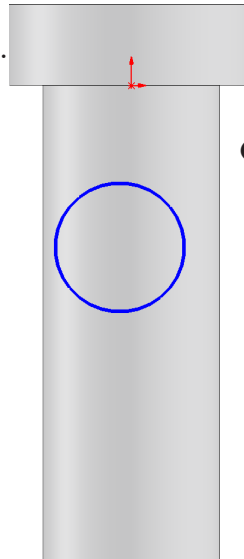

Fig. 10
Step 3. Click **Circle**  (S) on the Sketch toolbar.
Step 4. Sketch circle at **Origin** , **Fig. 10**.